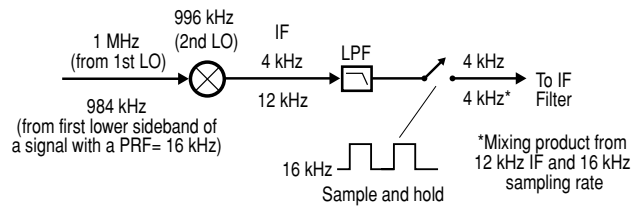

Figure 7. Pulse sidebands are downconverted and sampled by the receiver.
2. The next case is for a PRF greater than the IF BW, but less than the sampling rate of the analyzer's (ADC) analog-to-digital converter. Pulsed measurements are possible as long as the PRF does not generate a sideband at the sampling rate of the analyzer. For the 8753E and 8720E family, the ADC sampling rate is 16 kHz. If any PRF sideband occurs at 16 kHz, it will be down-converted and be sampled by the receiver (Figure 7). Therefore, signals with a PRF of 4 kHz, 8 kHz, or 16 kHz would not be allowed.